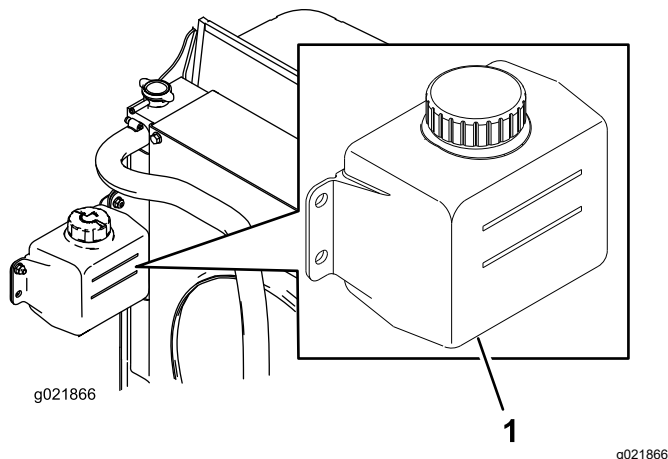

Figure 61
1. Check the level of coolant in the expansion tank (Figure 61).